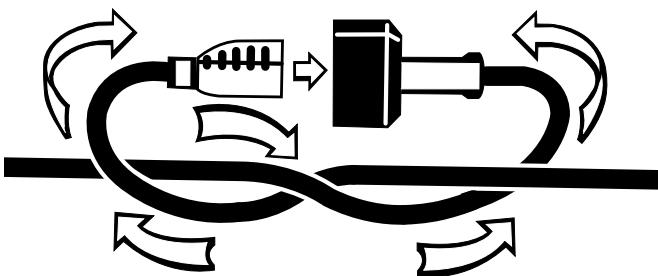

Fig. 1
*See Figure 1.*
It is possible to tie the extension cord and power cord in a knot to prevent them from becoming disconnected during use. Make the knot as shown in figure 1, then connect the plug end of the power cord into the receptacle end of the extension cord. This method can also be used to tie two extension cords together.